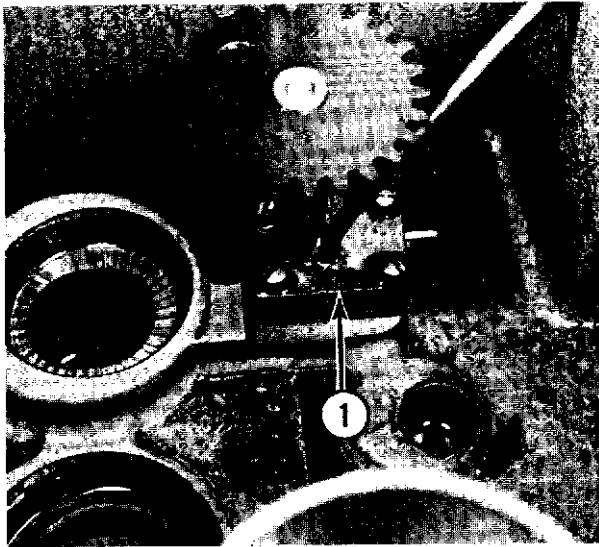

Fig. 11-10
- Y. The oil pump (1, Fig. 11-10) can be removed if necessary.